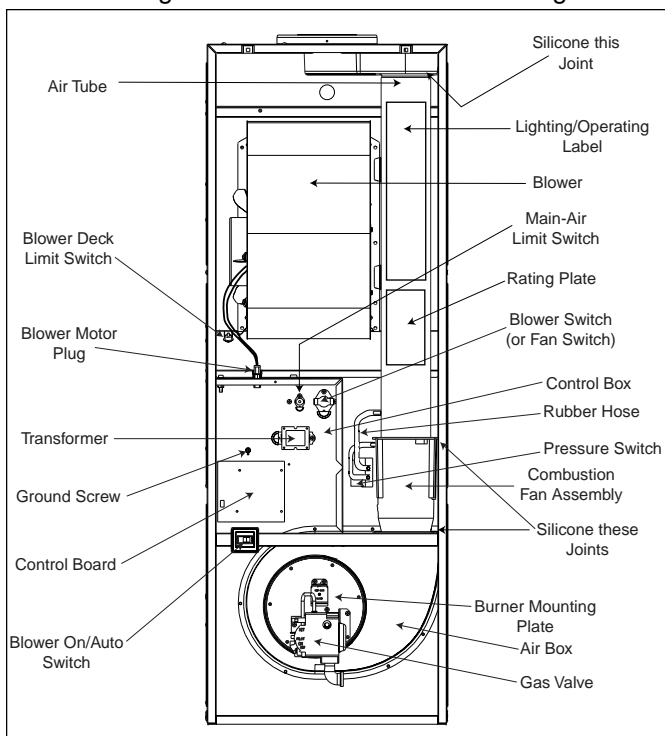

Figure 2. Typical Converted Furnace
1. Using the fasteners included in the conversion kit, secure the pressure switch to the air casing of the furnace, as shown in Figure 2. The mounting holes for the pressure switch will be present in the air casing.
1. Using a silicone sealant (field supplied), secure the combustion fan to the 4 inch diameter air tube included in this kit. No additional fastener will be required to secure the air tube to the combustion fan. Ensure that the pressure tap in the 4 inch diameter is aligned with the pressure tap in the combustion fan, and that the taps are as close together as possible, as shown in Figure 2. The taps should point towards the pressure switch.
shown in Figure 2.